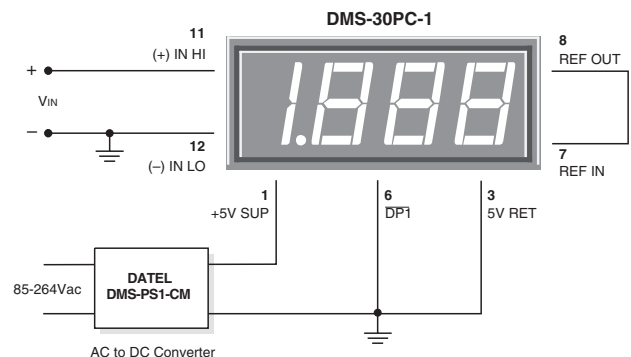

Figure 2. Single-Ended Input Configuration
**1. Single-Ended Input Configurations:** True single-ended measurements can be made with any DMS-30PC meter. The circuit of Figure 2 avoids problems normally associated with ground-loop currents. Separate ground runs should be used for 5V RETURN (pin 3) and (–) INPUT LO (pin 12). This will ensure that large LED currents will not flow in the wiring that connects  $V_{IN}$  to (–) INPUT LO (pin 12). Ground-loop currents can cause unstable readings.